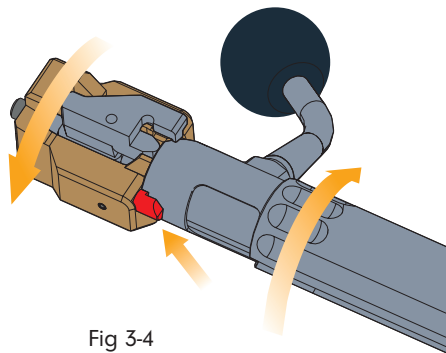

Fig 3-4
- Depress the bolt location pin with the right thumb and turn the shroud as shown in Fig 3-4 until the firing pin/shroud assembly can be withdrawn.